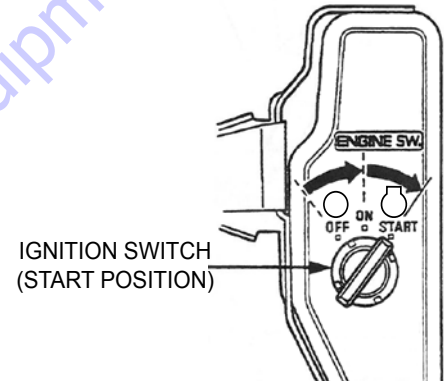

Figure 15. Ignition Switch (START)
- Turn the ignition switch on the engine to the **START** position (Figure 15). Release the key when engine starts and key will return to the **ON** position.